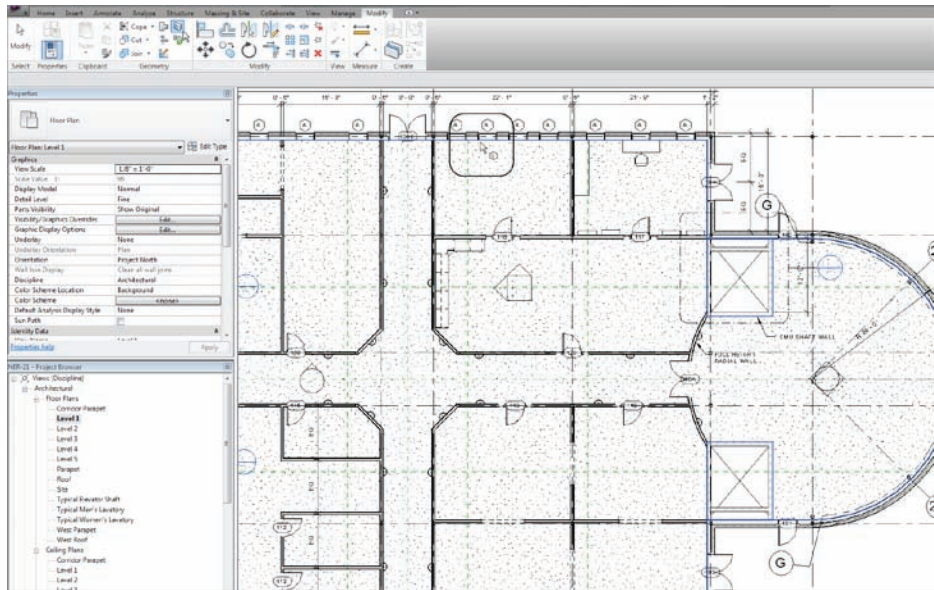

FIGURE 9.68 Clicking the Split Face button and selecting the slab edge
1. Open the Level 1 floor plan. Click the Split Face button on the Modify tab, as shown near the top right of Figure 9.68.
2. Select the entire floor. This may require finding the edge of the floor along an exterior wall (see Figure 9.68).